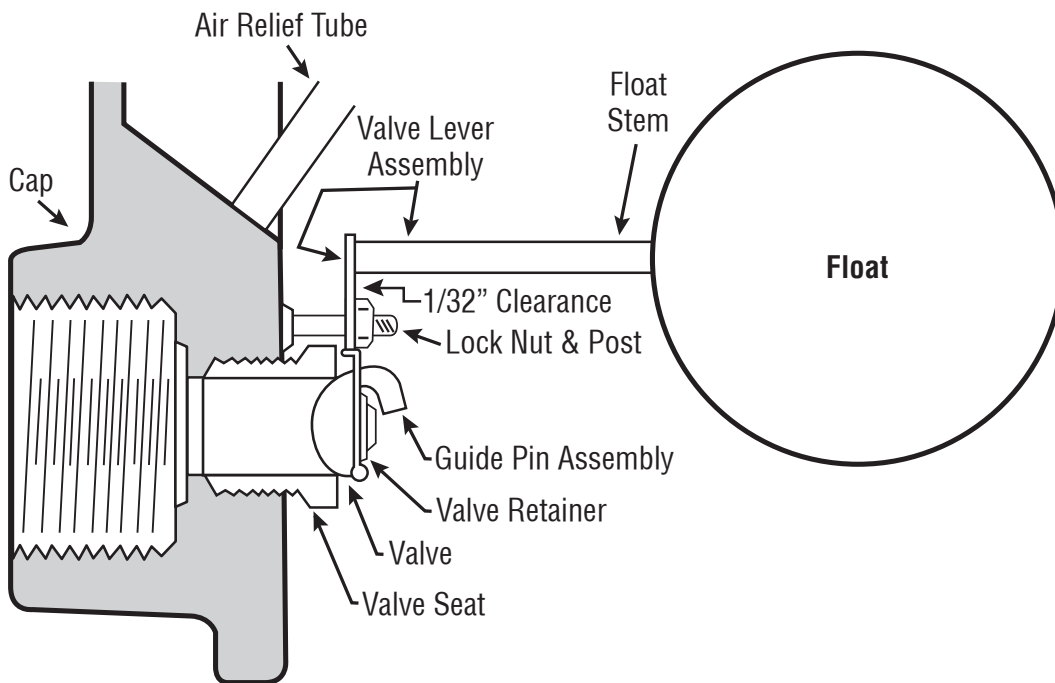

Figure 7. Detail of the Mechanism
6. Hold the valve in the valve seat with the lever's two fulcrum points resting on the face of the valve seat. Using an adjustable wrench turn the lock nut down on its post until there is approximately 1/32" clearance between the nut and the extension of the valve lever which is under the nut. See Figure 7.